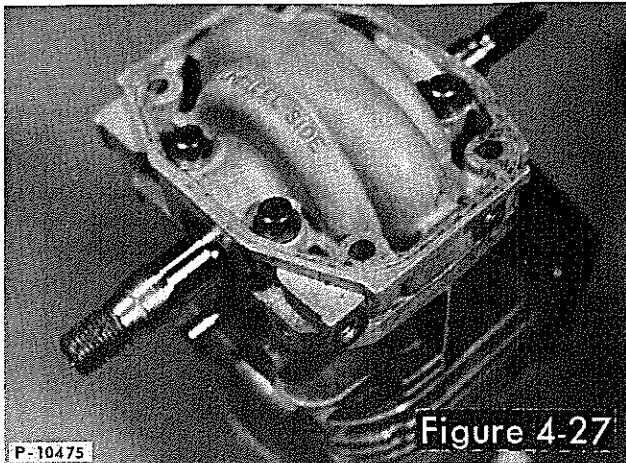

Figure 4-27
5. Place the crankcase bottom on the crankcase cylinder with the marked flywheel side toward the flywheel end of the crankshaft (Figure 4-27). Make sure the retaining rings fit into the ring grooves in the crankcase bottom.